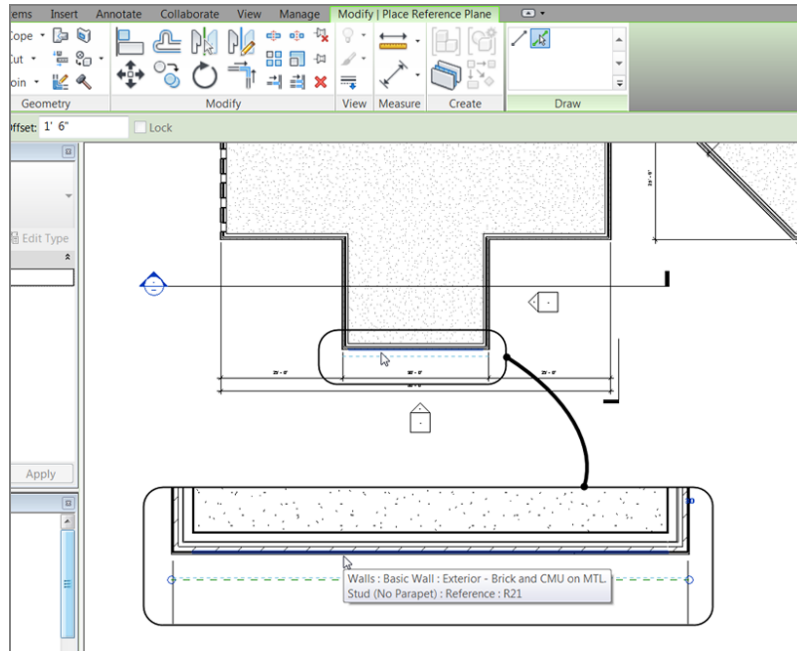

FIGURE 7.48: Adding a reference plane
17. Pick the southernmost wall, and offset the reference plane away from the building (see Figure 7.48).